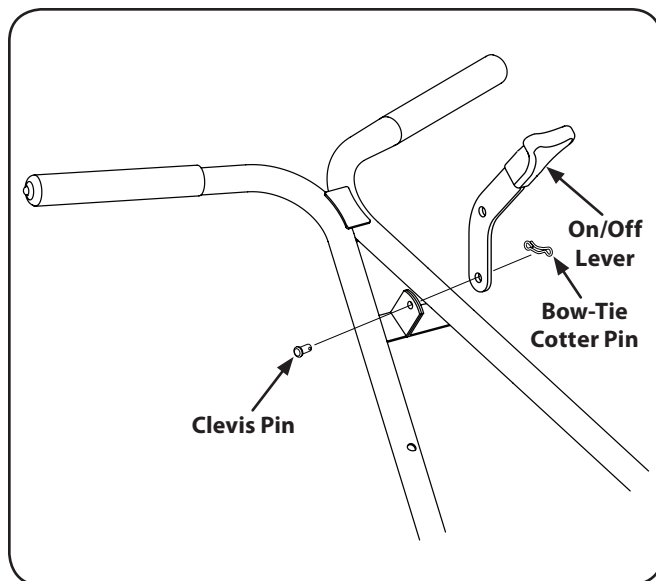

Figure 3-6
4. Fasten the On/Off lever to the handles bracket lugs using the clevis pin in the bottom hole of the lever. Insert the clevis pin from left to right, facing the rear of the hopper. Lock with the bow-tie cotter pin ($\frac{3}{32}$ x $\frac{1}{2}$). See Fig. 3-6.